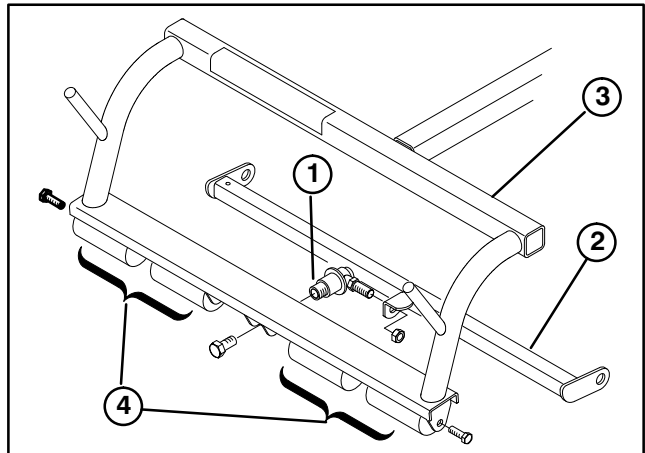

Figure 3
- A. If carrier frames are equipped with single point pull frames, pull frame and attaching ball joint must be removed (Fig. 3).
- A. Remove capscrews securing outside ends of each anti-scalp roller shaft to each end of carrier frame (outside end of shafts only) (Fig. 3).